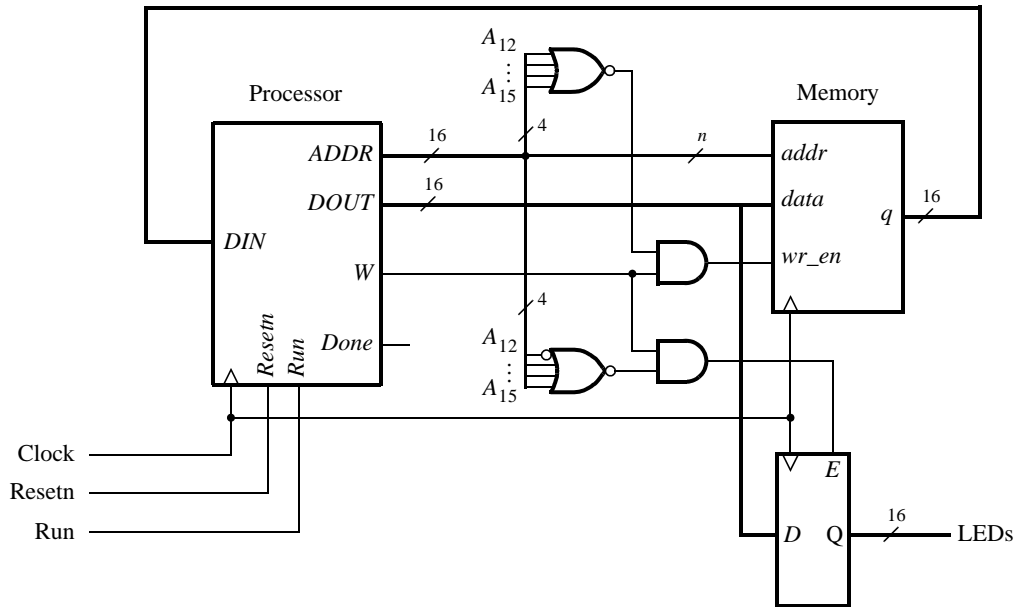

Figure 8. Connecting the enhanced processor to a memory and output register.
Figure 8 illustrates how the enhanced processor is connected to memory and other devices. The memory unit in the figure supports both read and write operations and therefore has both address and data inputs, as well as a write enable input. The memory also has a clock input, because the address, data, and write enable inputs must be loaded into the memory on an active clock edge. This type of memory unit is usually called a *synchronous random access memory* (*synchronous RAM*). Figure 8 also includes a 16-bit register that can be used to store data from the processor; this register might be connected to a set of LEDs to allow display of data on the DE2-series board. To allow the processor to select either the memory unit or register when performing a write operation, the circuit includes some logic gates that perform *address decoding*: if the upper address lines are $A_{15}A_{14}A_{13}A_{12} = 0000$, then the memory module will be written at the address given on the lower address lines. Figure 8 shows n lower address lines connected to the memory; for this exercise a memory with 128 words is probably sufficient, which implies that $n = 7$ and the memory address port is driven by $A_6 \dots A_0$. For addresses in which $A_{15}A_{14}A_{13}A_{12} = 0001$,
the data written by the processor is loaded into the register whose outputs are called *LEDs* in Figure 8.
2. Write Verilog code for the processor and test your circuit by using functional simulation: apply instructions to the *DIN* port and observe the internal processor signals as the instructions are executed. Pay careful attention to the timing of signals between your processor and external memory; account for the fact that the memory has registered input ports, as we discussed for Figure 8.
3. Create another Quartus II project that instantiates the processor, memory module, and register shown in Figure 8. Use the Quartus II MegaWizard Plug-In Manager tool to create the RAM: 1-PORT memory module. Follow the instructions provided by the wizard to create a memory that has one 16-bit wide read/write data port and is 128 words deep. Use a MIF file to store instructions in the memory that are to be executed by your processor.
Connect the *LEDs* register in Figure 8 to $LEDR_{15-0}$ so that you can observe the output produced by the processor.
1. Create a Quartus II project for your circuit and write the Verilog code that includes the circuit from Figure 8 in addition to your *seg7_scroll* module.